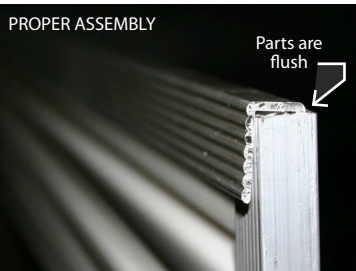

FIG. 4B
**NOTE:** It is very important that both ends of the awning (the top trim and the front trim) along with the slat section are **completely flush** in the edge rafters to be able to align pre-punched holes for fastening. See FIG. 4B.
**NOTE:** Only the outside edge of the Front Trim and the curled edge of the slat are inserted into the Edge Rafter (FIG. 4B).